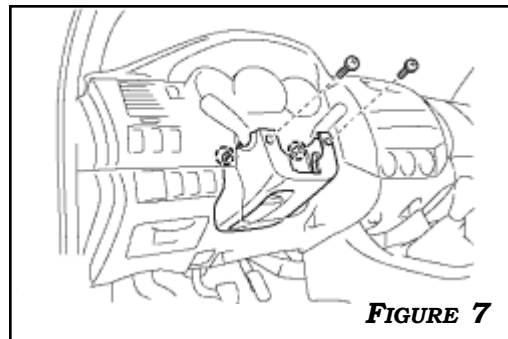

FIGURE 7
6. REMOVE 2 PHILLIPS SCREWS TO RELEASE THE STEERING COLUMN SHROUD. **FIGURE 7**